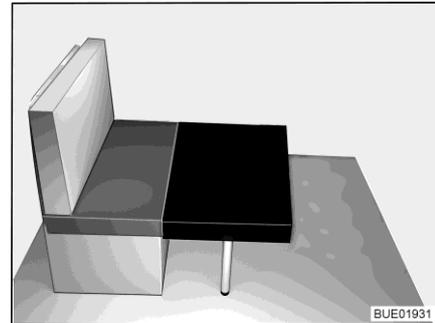

Fig. 58 Conversion (1)
- Place the small additional cushion onto the table in front of the seat cushion of the bench (refer to Fig. 58).